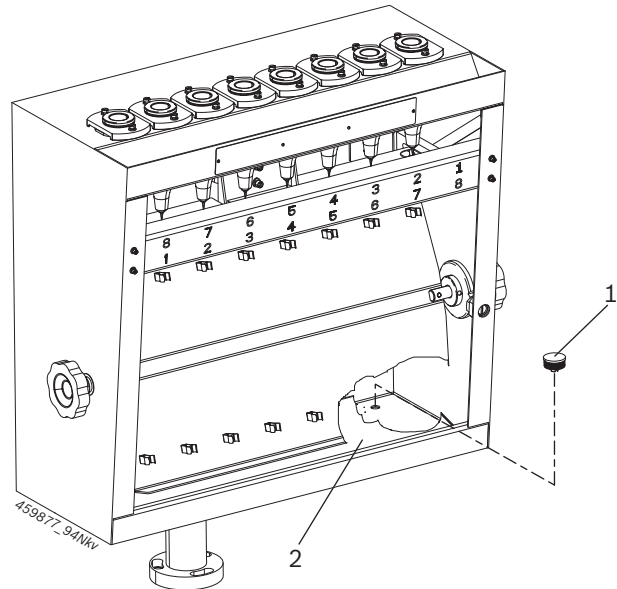

Fig. 19: MGT assembly
3. Pull out the MGT strainer (Fig. 19, Pos. 1).